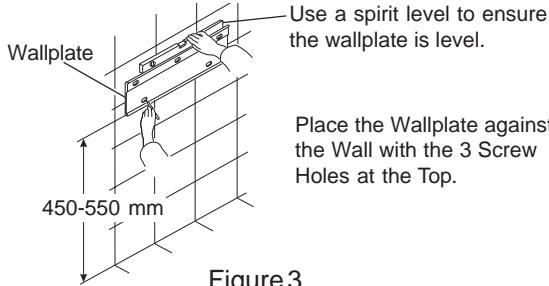

Figure 3
1. Place the wallplate against the wall, with the 3 screw holes at the top of the plate. Mark through the 5 screw holes, as shown in Figure 3.